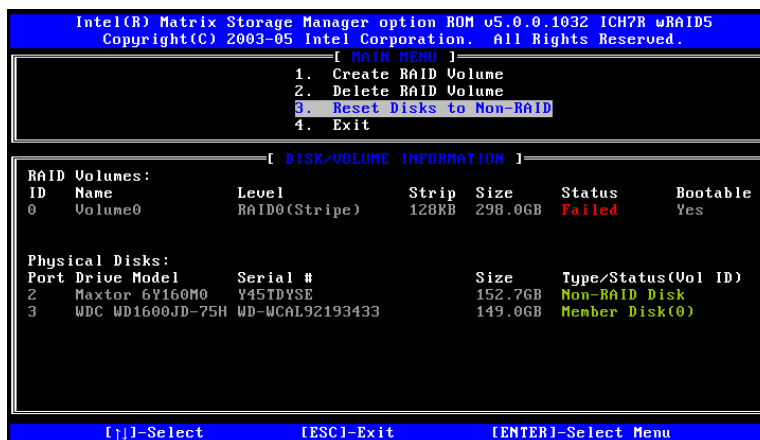

Figure G-15: Disk Drive and RAID Volume Status
Step 4: Disk Drive and RAID Volume Status. After the disk drives have been reset, the **Matrix Storage Manager Main** menu is shown indicating the status of the RAID volumes and disk drives. See Figure G-15.